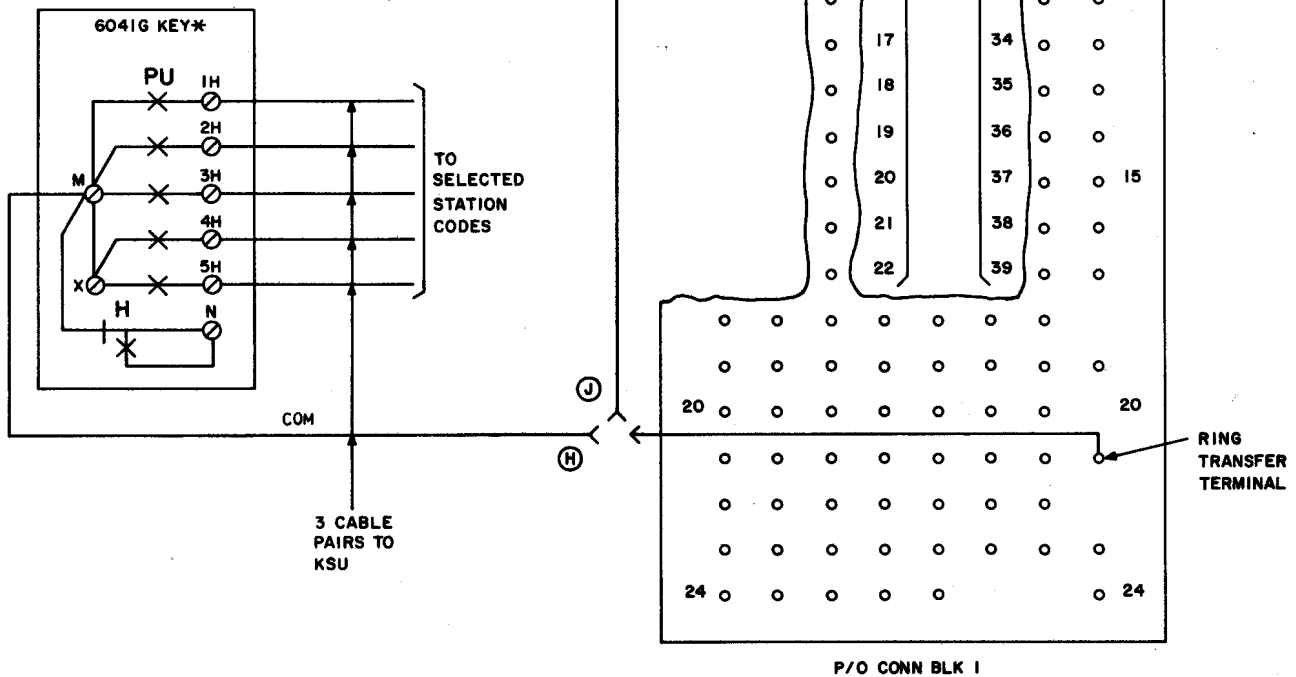

Fig. 24—Connections for Ring Transfer
4.28 Attendant stations which are to control ring transfer must be equipped with an 833CM, 833EM, 2833CM, or 2833EM telephone set which is factory-equipped with a ring transfer button. However, the ring transfer button is not factory-connected and must be connected in the field. To connect the ring transfer button, open the telephone set, move the O-BK lead from terminal 7 to terminal 11, and move the O-V mounting cord lead from terminal 1 to terminal 23 on the telephone set terminal board (Fig. 24).
4.29 For fixed station ring transfer, in the KSU, run a strap from the RT terminal (column H, terminal 21) on connecting block 1 to station(s) code terminal(s) (in column C or column G) selected for ring transfer. For example, Fig. 24 shows station 12 connected for fixed ring transfer. When more than one station is to be connected for ring transfer, run a continuous strap from the RT terminal to all station code terminals of the stations selected for ring transfer. No more than ten stations can be wired to ring on ring transfer.
(1) Install a 6041G key at the attendant station.
(2) Provide three cable pairs or six 24-gauge conductors between the 6041G key and the KSU.
- (3) Connect one conductor (common lead) to terminal M of the 6041G key (Fig. 24 or 31).
- (4) Terminate the remaining conductors on terminals 1H, 2H, 3H, 4H, and 5H of the 6041G key, as required.
- (5) At the KSU, terminate one conductor (common lead) on the RT terminal (column H, terminal 21) of connecting block 1.
- (6) Terminate the remaining conductors on the terminals of connecting block 1, column C or column G, corresponding to the codes of the stations selected for ring transfer (Fig. 24).
- (7) Install designation strip on the 6041G key. Designate the HOLD button as RELEASE and label the remaining buttons, according to the stations they connect, for ring transfer.